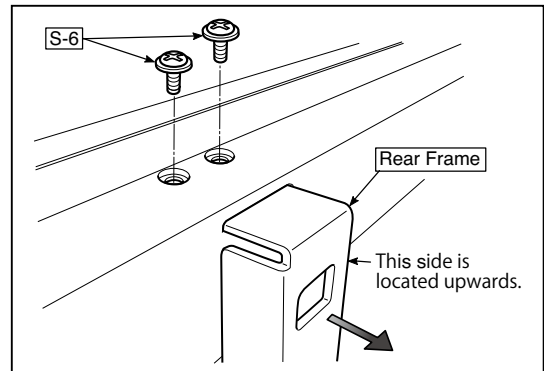

Fig.23
### 10) Remove the Rear Frame. (See Fig. 23)
1. Remove the "S-6" screws shown in the figure 23 and then remove the Rear Frame (two).